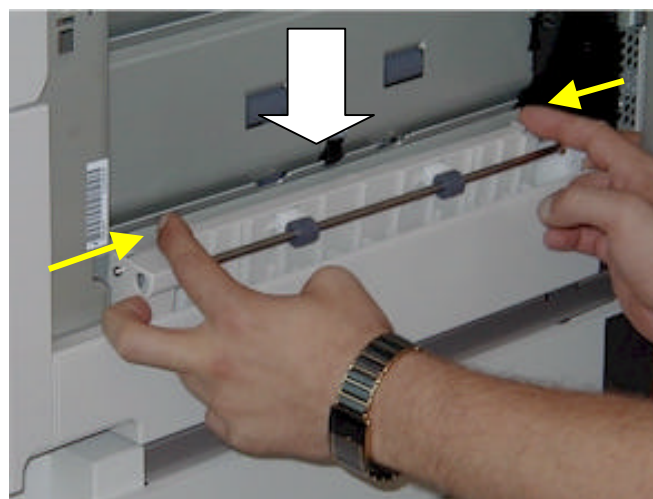

Fig. 12 Installing the PPCA in the printer
- Slide the PPCA into the gap behind the right side cover of the printer and release the sliders to let the bolts snap into position (Fig. 12).